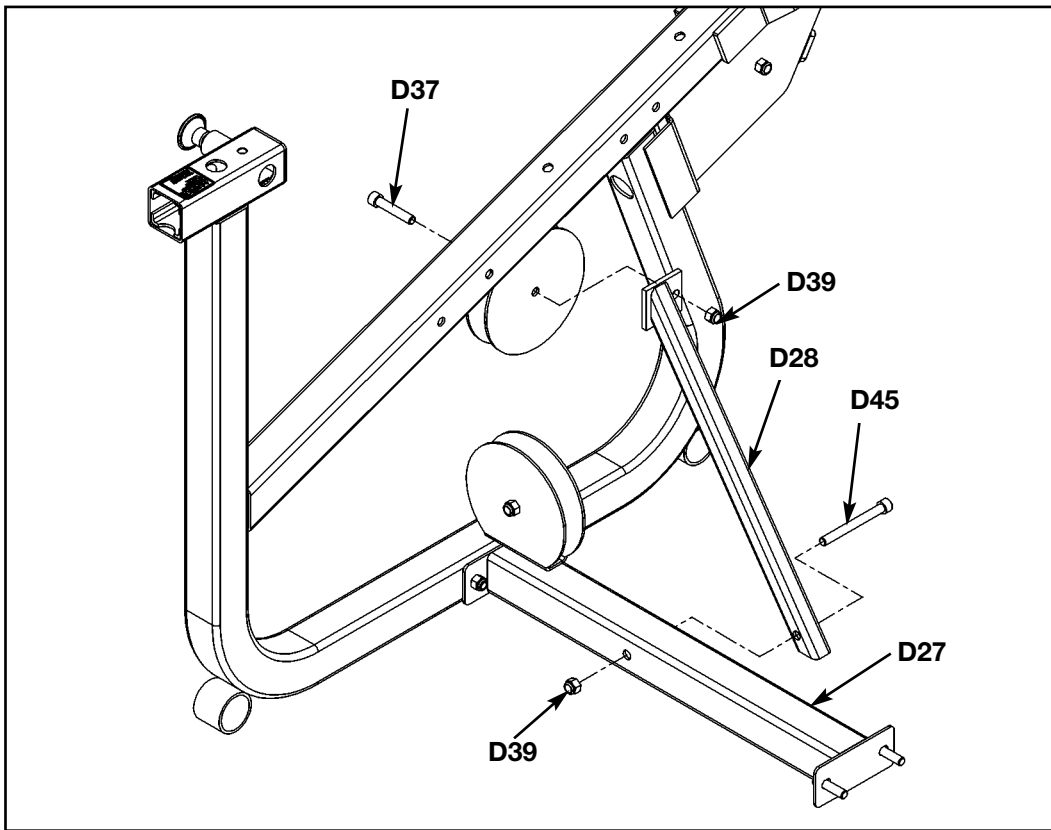

Figure 7
4. Install brace (see steps 4A - 4D and Figure 7).
- B. Attach lower portion of brace (#D28) to leg (#D27) using SHCS .375-16 x 3.50 (#D45) as shown in Figure 7.
- C. Attach top end of brace (#D28) using one SHCS .375-16 x 2.00 (#D37) as shown in Figure 7.